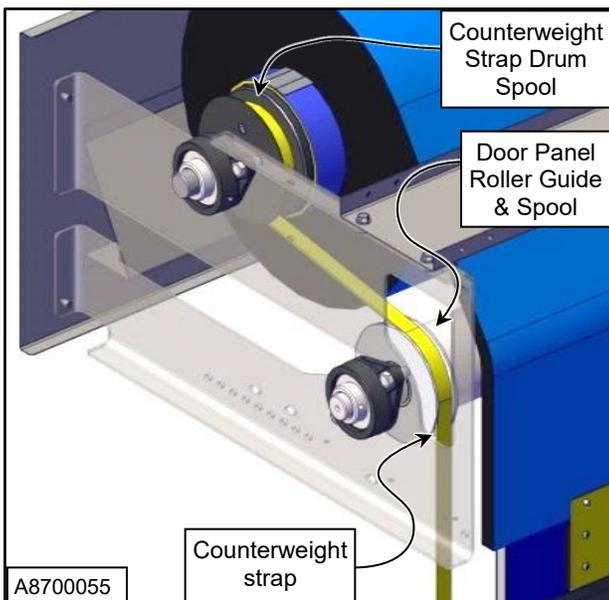

Figure 53
- Wrap the strap around the spool three times. The strap must hang off the front of the spool as shown. (See Figure 53)